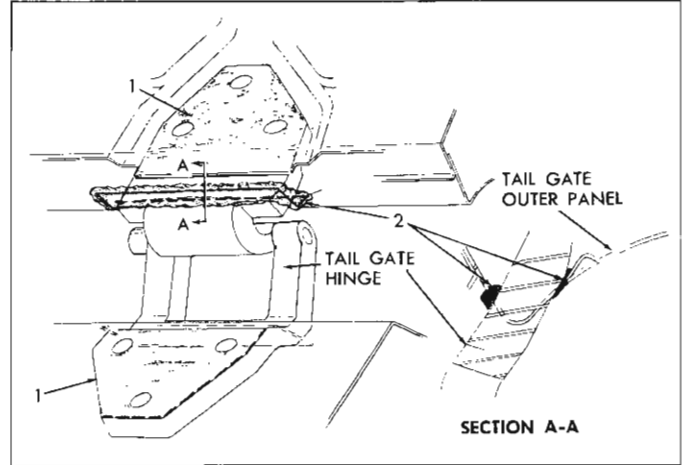

Fig. 40—Tail Gate Hinge Assembly
9. To install tail gate assembly reverse removal procedure. Prior to installation apply a coat of heavy bodied sealer to surface of hinge straps that contact tail gate inner panel (fig. 40).
5. To install tail gate hinge, reverse removal procedure. Prior to installation apply a coat of heavy bodied sealer to surfaces of hinge strap which contact tail gate inner panel and body rear cross bar (fig. 40). Where necessary adjust tail gate for proper alignment in body opening as described under "Tail Gate Adjustments."